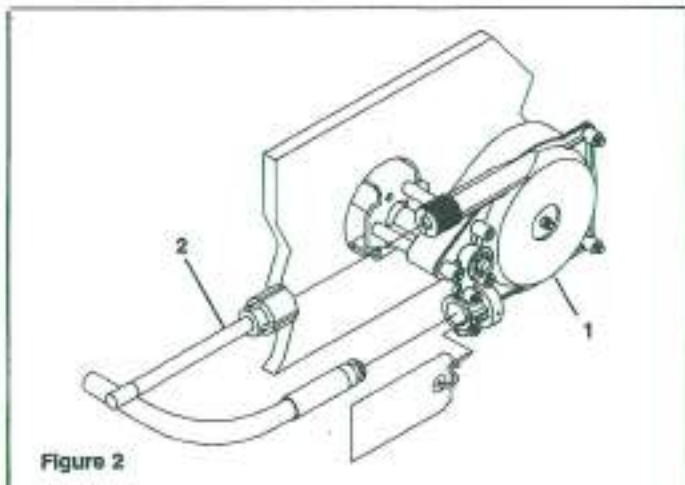

Figure 2
**STEP 2.** Remove protective sleeve from cable end, making sure that dirt does not get onto the lubricated cable end. Feed cable end into **LOWER** helm entry spigot until it contacts the internal gear, then turn steering wheel to draw cable fully into the helm, (see Figure 2). Continue turning wheel until end fitting of cable is entered into the entry spigot, and wheel cannot be turned further. During this you may hear a click as the locking mechanism engages. Turn steering wheel fully in the other direction until it cannot be turned any further, check that cable end fitting is retained inside the entry spigot.
**STEP 4.** Replace pins as shown in Figure 2, making sure that they are fully seated. If one pin cannot be inserted, that cable is not fully seated in the helm. Push on cable to ensure that it is fully home. **DO NOT REMOVE TAGS FROM PINS.**